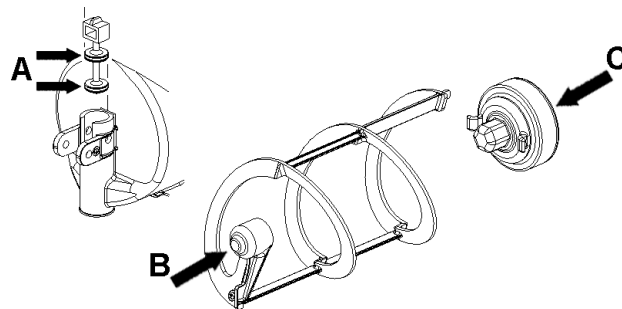

figure 13
- 2 Lubricate faucet piston, outer spiral and outside magnetic rotor (see points A, B and C of figure 13) only with the grease supplied by the manufacturer or other food grade approved lubricant.